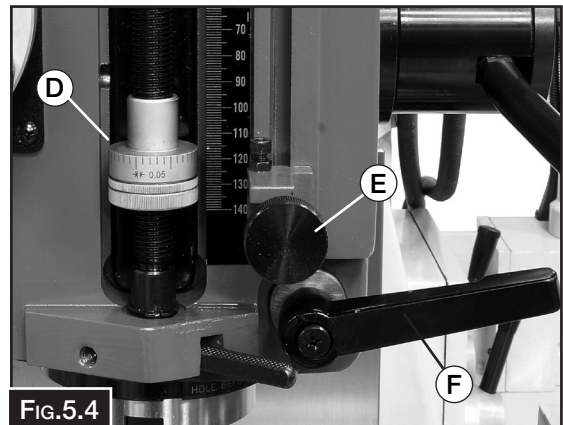

FIG.5.4
- D. **Depth Stop:** Can be set to trip out the feed at the end of the feed processed. (Fig.5.4)
- E. **Manual Quill Quick Stop:** Used to set a dead stop when using the manual down handle. (Fig. 5.4)
- F. **Spindle Lock:** Locks the spindle when not being fed to enhance rigidity. (Fig.5.4)